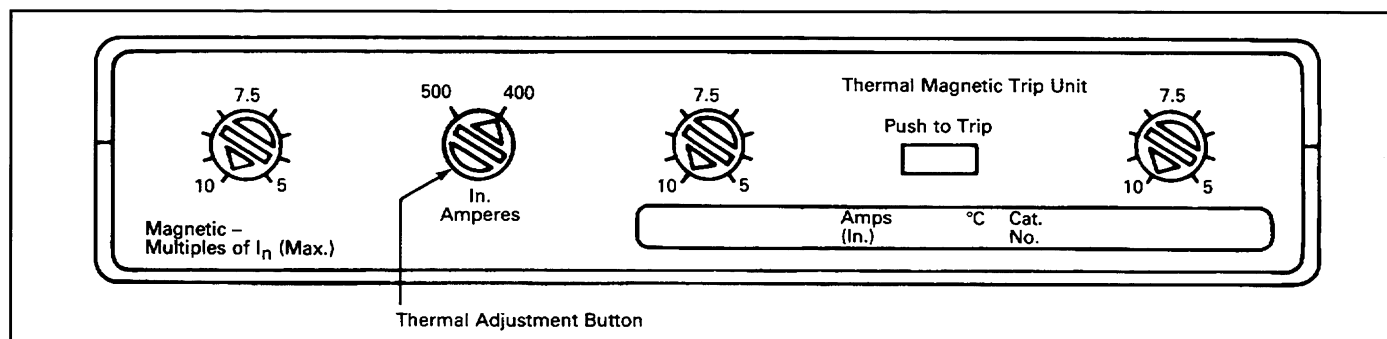

Fig. 2-3 Trip Unit Thermal Adjustment Button
Adjustable Thermal: Trip units having an adjustable thermal element are adjusted within the range shown in Table 1-2 with a single adjusting button (see Fig. 2-3).
In some trip unit types, the thermal rating (I_n) of the trip unit can be adjusted by a single button (see Fig. 2-3) within the ranges indicated in Table 1-2.
- 2-12. Adjust thermal setting as required (see Fig. 2-3) by rotating the thermal adjustment button until the arrow on the button points to the desired setting.